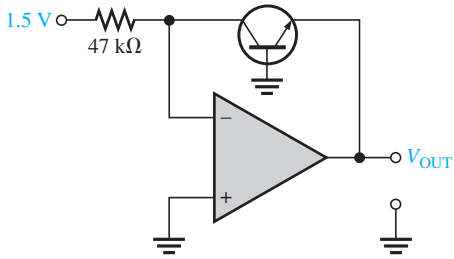

FIGURE 12-42
29. Signal compression is one application of logarithmic amplifiers. Suppose an audio signal with a maximum voltage of 1 V and a minimum voltage of 100 mV is applied to the log amplifier in Figure 12-42. What will be the maximum and minimum output voltages? What conclusion can you draw from this result?